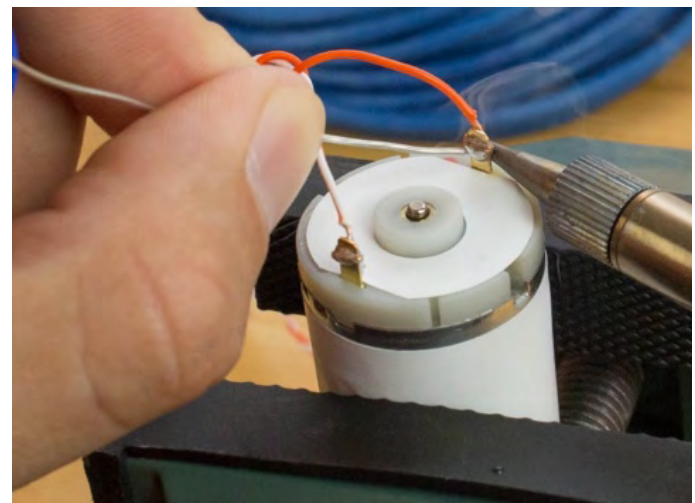

Figure 20
- ❑ Hold the tip of the soldering iron parallel to one of the terminals, touching the terminal and the wire for a few seconds to heat the connection. (Figure 20)